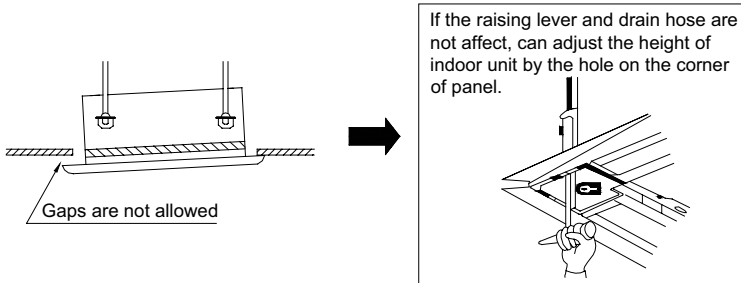

Fig. 15
- ① . If gap still exist between ceiling and decoration panel after tightening the screws, readjust the height of the indoor unit. (As shown in Fig.15)